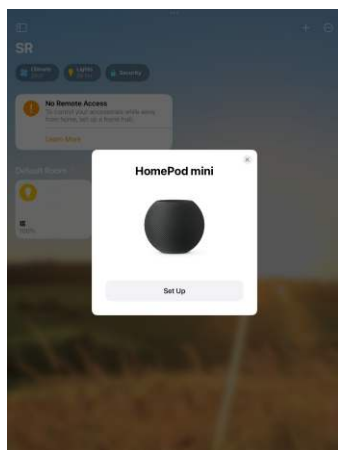
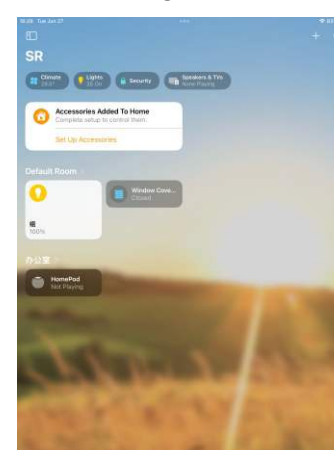

Figure 1
Figure 7
Step 2: Connect the iPhone or iPad to your home WLAN network. Run the Apple Home app and set up the HomePod mini as instructed by Apple (as shown in **Figure 1** to **Figure 7**).